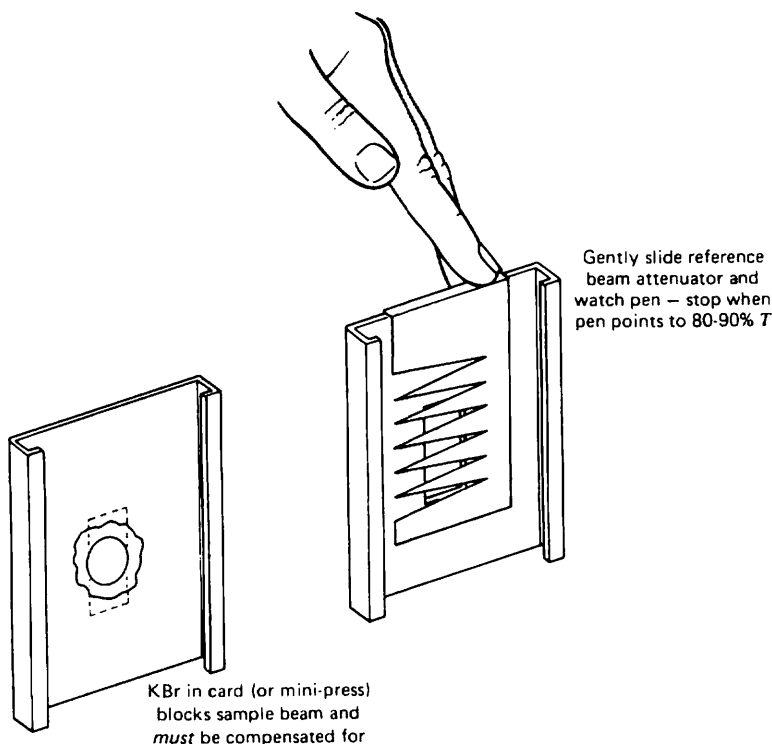

Fig. 160 Using a reference beam attenuator with a KBr window.
1. Cut and trim an index card so that it fits into the **sample beam aperture** (Fig. 160).
Usually, there's not much more to adjusting the 100% control than is shown in upcoming items 7 through 9, unless your sample, *by its size alone*, reduces the amount of IR reaching the detector. This really shows up if you've used the mini-press, which has a *much smaller opening* than that of the opening in the reference beam. So you're at a disadvantage right from the start. Sometimes the 100% control mopes around at much less than 40%. That's terrible, and you'll have to use a **reference beam attenuator** (Fig. 160) to equalize the amounts of energy in the two beams. As you block more and more of the energy in the reference beam, the %*T* will go back to the 100% mark. Stop at about 90%. Note that, if you didn't have these problems, this is where you'd put the pen with the 100% control anyway. Use the *smallest amount* of reference beam attenuation you can get away with.